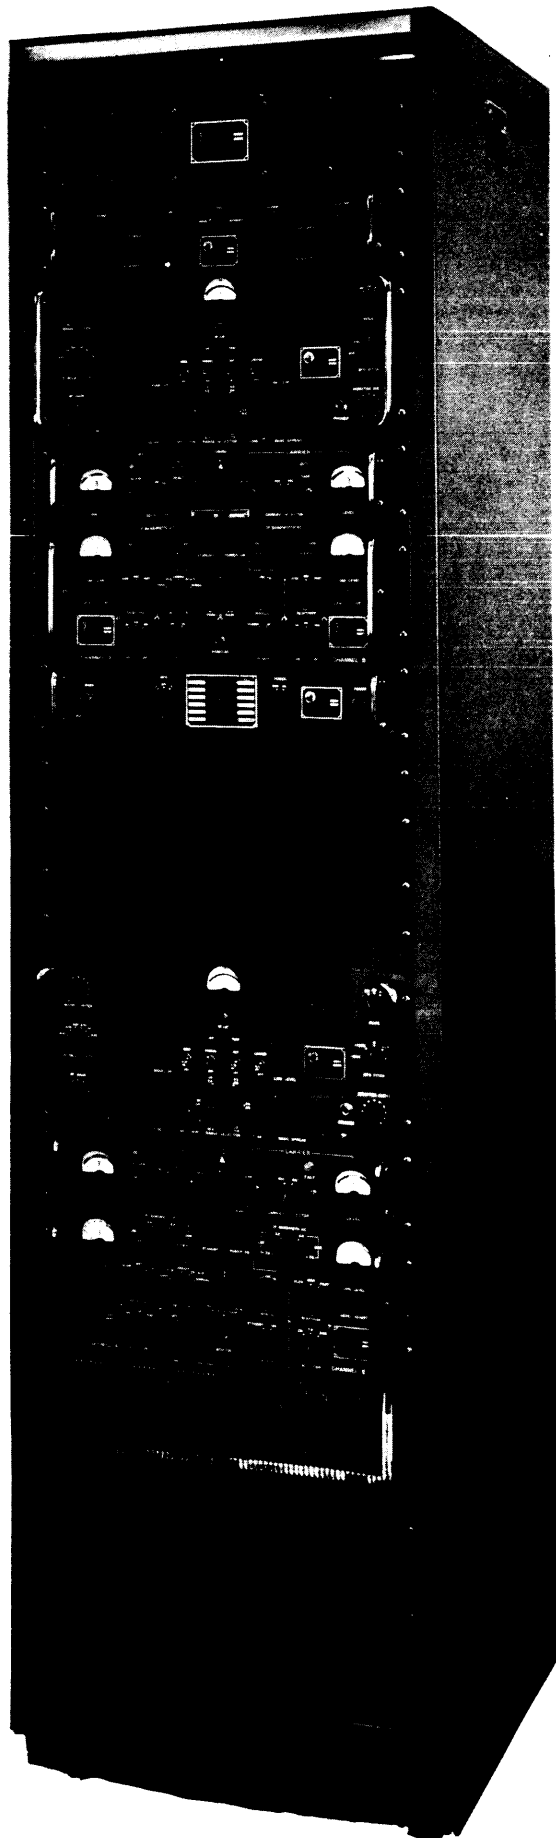

FIGURE 1-1. Dual Diversity Receiver, Model DDR-7C
a. GENERAL - Model DDR-7C Dual Diversity Receiver (figure 1-1) is two separate receiver systems. Each system receives CW, MCW, AM, SSB, ISB and FSK transmission and the two systems may be operated singly or in diversity. The input frequency range is 0.54- to 32.3-mc in six bands. Two selectable sideband widths enable reception of 3.5-kc or 6-kc single sidebands or two 3.5-kc or 6-kc independent sidebands. In 6-kc ISB (independent sideband) reception, diversity operation renders two separate 6-kc width audio outputs; each output can be further divided into 2 discrete voice channels (making a total of 4 discrete channels) by an external demultiplexer similar to TMC Model RMX-2 in associated receiving equipment, if desired.
Refer to table F (Shipping List for DDR-7C) for parts and their functions. Install components as shown in figure 1-1 (Systems) and